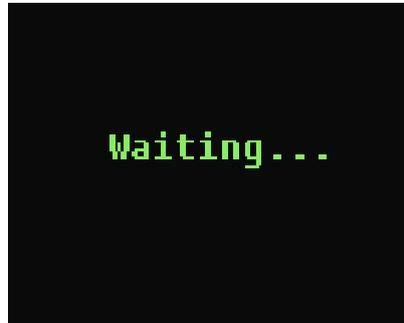

Figure 11.
- d. When the stored data is being uploaded ,the screen displays as figure 11.